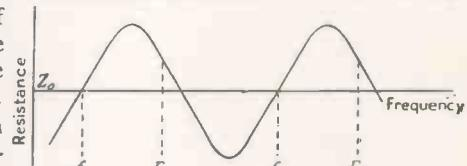

Fig. 7.
Equation (2) is important because it enables the magnitude and location of a capacitative impedance irregularity to be determined from measurements of the input resistance of the terminated feeder over a frequency range. Fig. 7 illustrates a possible curve of input resistance against frequency. Since it is sinusoidal it may be inferred that the impedance irregularities are restricted to a small length of feeder and so are probably due to a single cause. The "periodic interval" of the oscillation ($f_1 - f_2$) locates the irregularity at a distance of $c/[2f_2 - f_1]$ from the input end, and an inspection of the feeder in this vicinity should show the cause.
which the short-circuited feeder is an odd multiple of a quarter-wavelength. If these frequencies are F_1 , F_2 , etc. (see Fig. 7) then the electrical length to the short-circuited point is less than that to the irregularity by